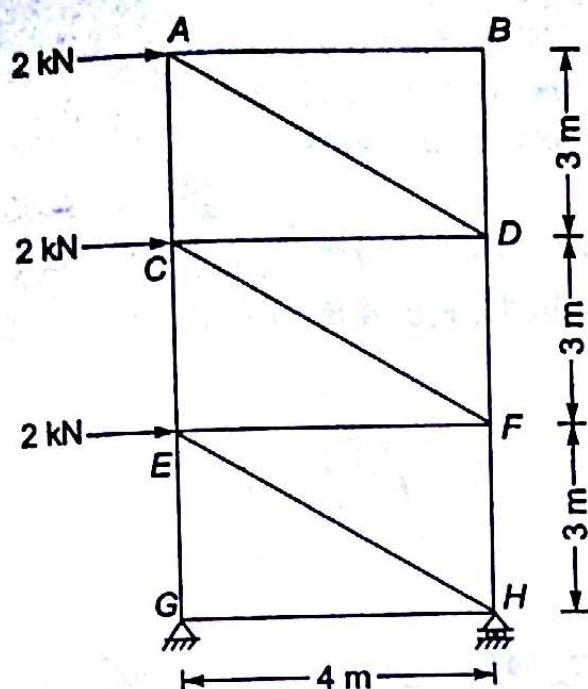

Fig. 4.47
- 4.18 What is the force in the member EH for a pin jointed tower truss as shown in the Fig. 4.47